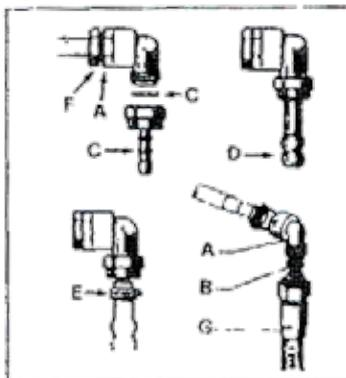

Fig. 1
- Raccordement Flexible (Fig. 1)
- Raccordement Souple (Fig. 1).